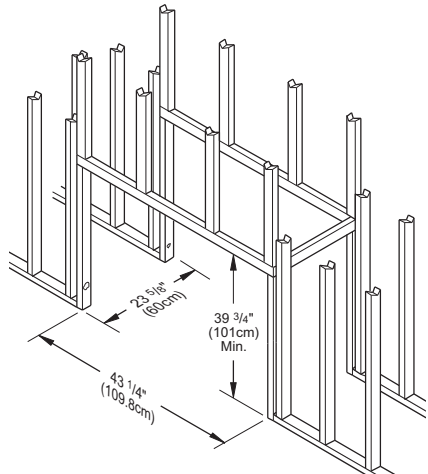
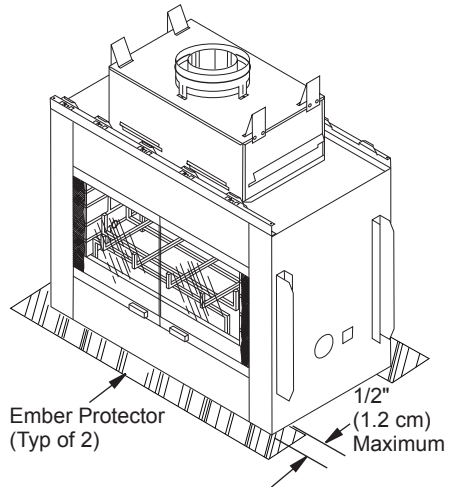
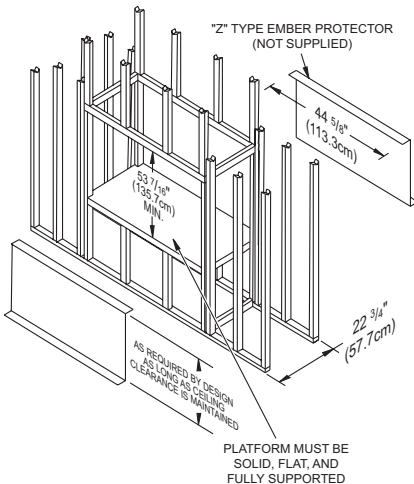
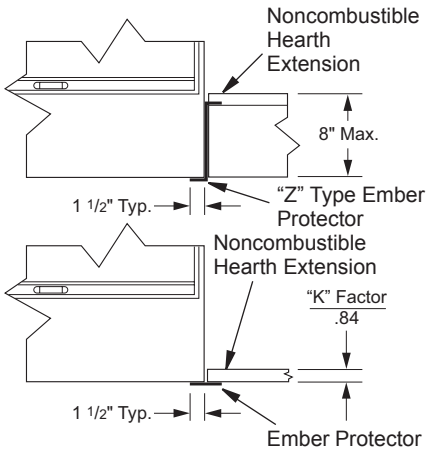

Figure 4 - Framing Firebox
Figure 7 - Ember Protectors
Figure 6 - Framing Firebox with "Z" Type Ember Protectors
Figure 10 - Raised Hearth Extension
1. Frame the opening for the fireplace using the dimensions shown in Figures 4 and 5 and Figure 6 on page 5.
5. Before securing fireplace to prepared framing, ember protector (provided) must be placed between hearth extension (not supplied) and under bottom front edge of fireplace to protect against glowing embers falling through (see Figure 7). If fireplace is to be installed on a raised platform, a Z-type ember protector (not supplied) must be fabricated to fit your required platform height (see Figure 6). The ember protector should extend under fireplace a minimum of 1 1/2". The ember protector should be made of galvanized sheet metal (28 gauge minimum) to prevent corrosion.
If hearth extension is to be raised, a "Z" type ember protector must be used (see Figure 6 and Figure 10, page 6)